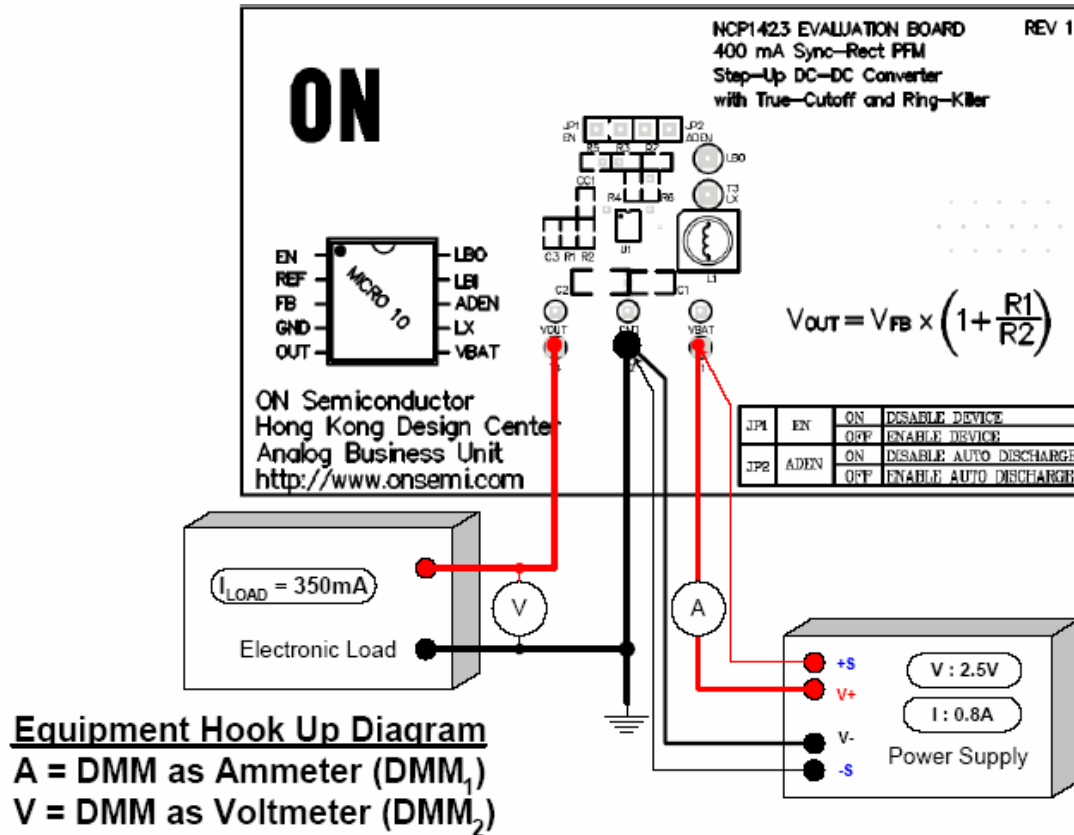

Figure 1: Equipment Connection Diagram
2. Connect the equipment and the demo board. (Figure 1)